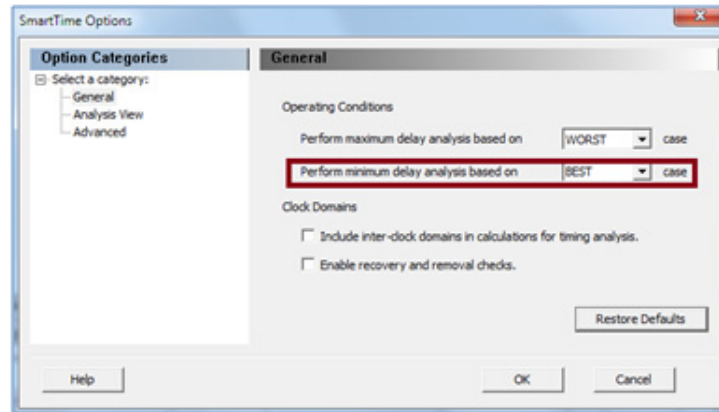

Figure 7 • Default External Setup Calculation by SmartTime
1. Ensure that the minimum delay analysis is set to **BEST**, as shown in Figure 7. This is usually the default setting.